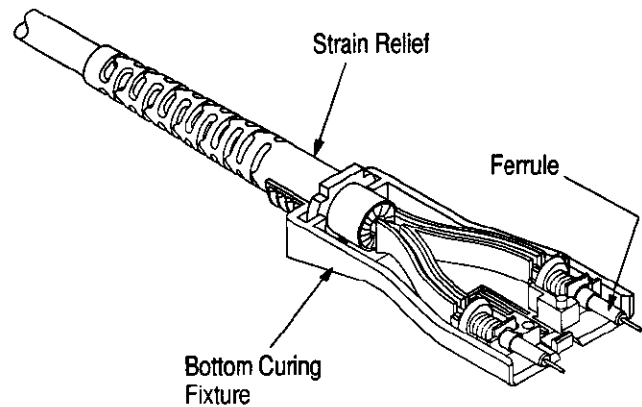

Figure 11
5. Carefully position the ferrule in its nest in the bottom of the curing fixture. Push the buffered fiber into the track in the fixture. Repeat for the second fiber. See Figure 11.